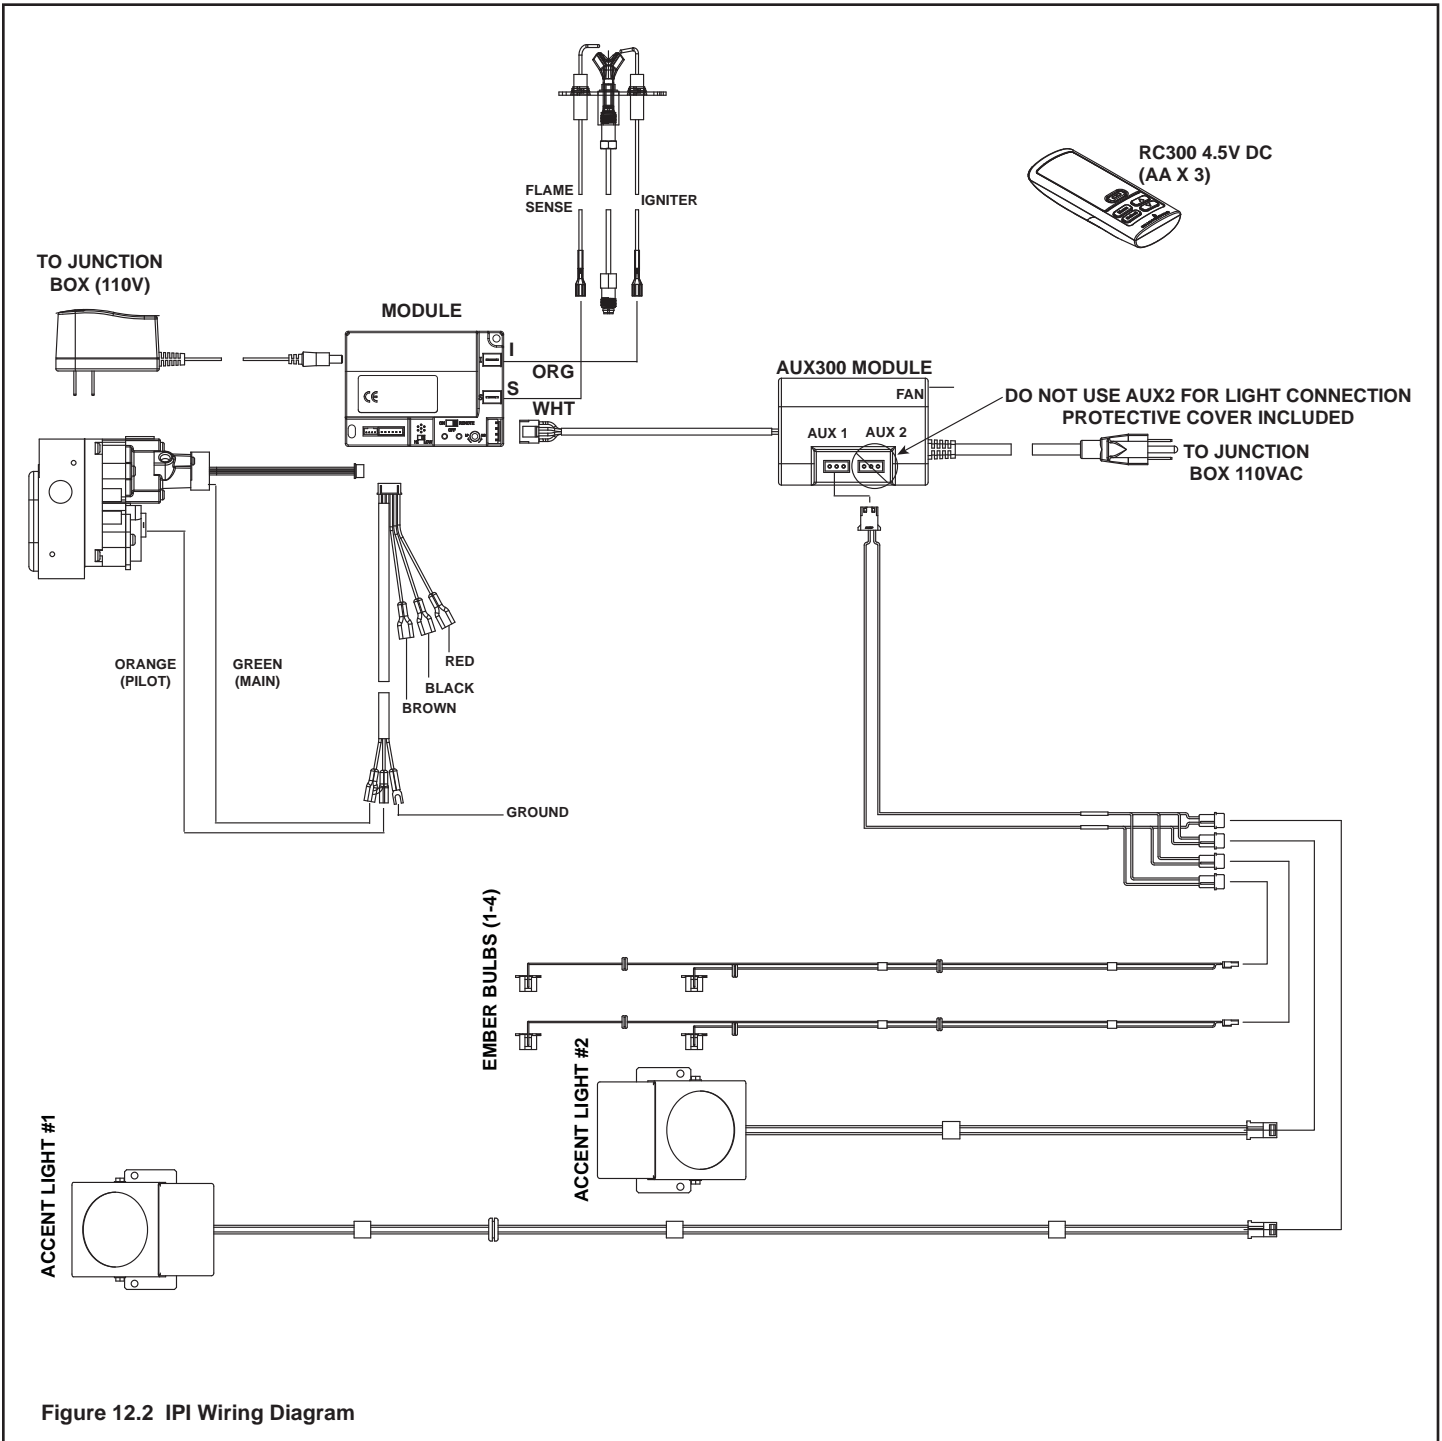

Figure 12.2 IPI Wiring Diagram
- Refer to Figure 12.2, IntelliFire Plus™ (IPI) Wiring Diagram.